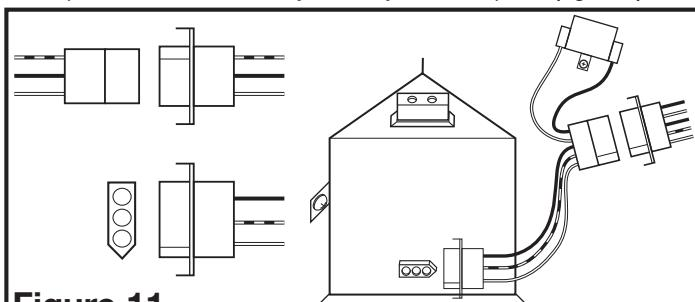

Figure 11
3. Connect the fan wire harness by plugging the 3 pin quick connect end into the receptacle located on the side of the wire compartment cover. Confirm that the 5 pin quick connect end is plugged into the receptacle from the blower assembly. Connect the light wire harness by plugging the 2 pin rectangular quick connect end into the receptacle located at the top of the wire compartment. These cords will only fit one way into the receptacles (Figure 11).